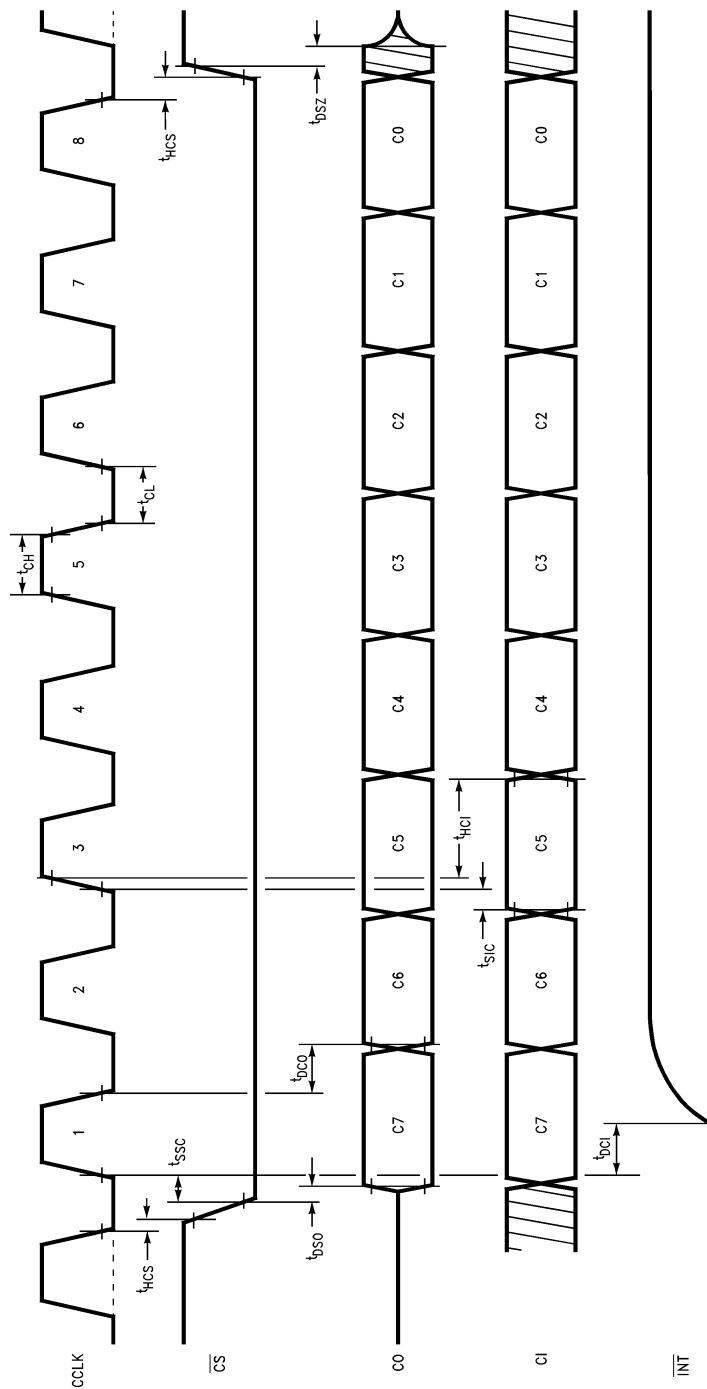

FIGURE 13. Control Interface Timing
A serial interface, which can be clocked independently from the B and D channel system interfaces, is provided for microprocessor control of various functions on the DASL device. All data transfers consist of a single byte shifted into the Control Register via CI simultaneous with a single byte shifted out from the Status Register via CO, see *Figure 13*. Data shifts in to CI on rising edges of CCLK and out from CO on falling edges when  $\overline{CS}$  is pulled low for 8 cycles of CCLK. An Interrupt output,  $\overline{INT}$  goes low to alert the microprocessor whenever a change in one of the status bits, C1 and/or C0 has occurred. This latched output is cleared high following the first CCLK pulse when  $\overline{CS}$  is low. No interrupt is generated when status bit C2 (bipolar violation) goes high, however. This bit is set whenever 1 or more violations of the AMI coding rule is received, and cleared everytime the  $\overline{CS}$  is pulsed. Statistics on the line bit error rate can be accumulated by regularly polling this bit.
*Figure 13* shows the timing for this interface, and Table II lists the control functions and status indicators.
CONTROL INTERFACE (Figure 13)